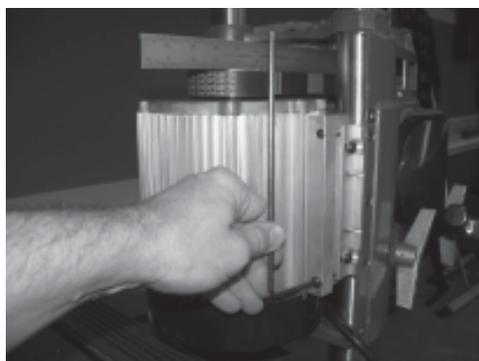

Figure E-6
13. Rotate both Belt Alignment, button head screws (522660). This will align the Motor Pulley face, with the straightedge, with the center of the Poly-V Pulley on the Idler Shaft. These button head screws are found on the opposite end of the motor mount assembly from the Tensioning Setscrews, as shown in Figure E-6.